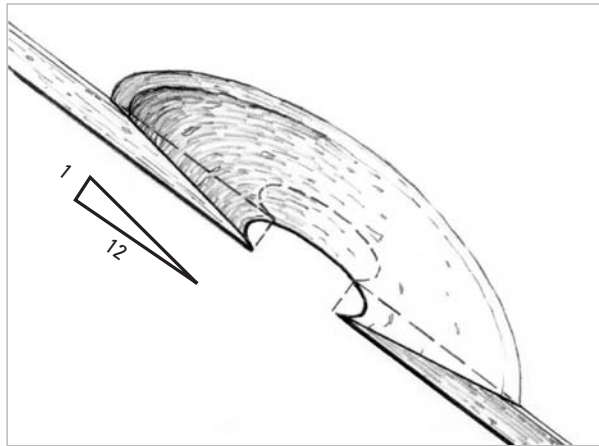

Figure 4-1 Grind a minimum 12-to-1 bevel around the edge of the excavated hole, whether the damage extends partially or completely through the skin.
2. Grind a bevel around the edge of the repair area to create a bonding area for the patch that will keep the patch flush with the skin's surface. A minimum 12-to-1 bevel is required to assure the transfer of loads across the repair area (Figure 4-1). For example, if you are left with a hole through a 1/4" (6mm)-thick laminate, the outer edge of the bevel will extend 3" (75mm) from the inside edge of the hole. If the skin is very thin, a longer bevel angle is required.